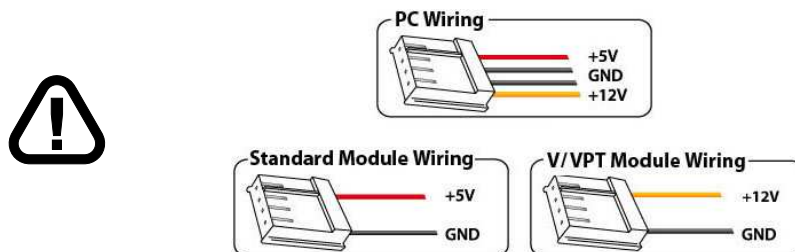

Figure 11: PC vs Matrix Orbital Display Module Wiring
- First, you will want to make sure that you are using the correct power connector. Standard floppy drive power cables from your PC power supply may fit on the Power/Data Connector however they do not have the correct pin out as can be seen in **figure 11 on page 6**. Matrix Orbital supplies power cable adapters for connecting to a PC, which can be found in the **Accessories Section on page 2**.